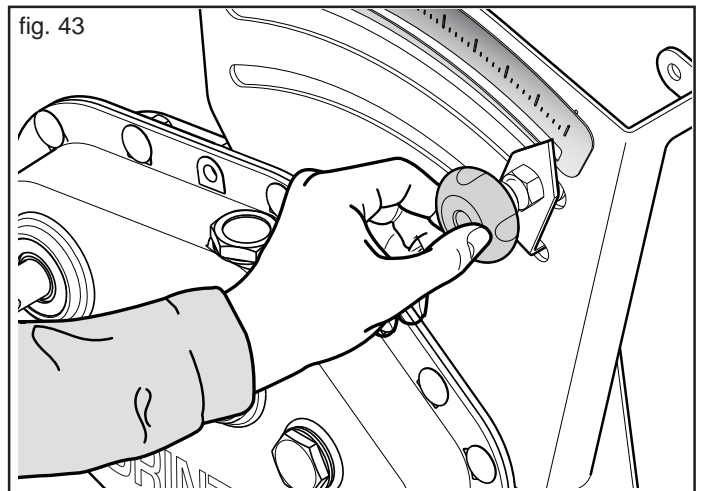

fig. 43
- 6) Loosen the fastening screw on the gear adjuster (Fig. 43)...